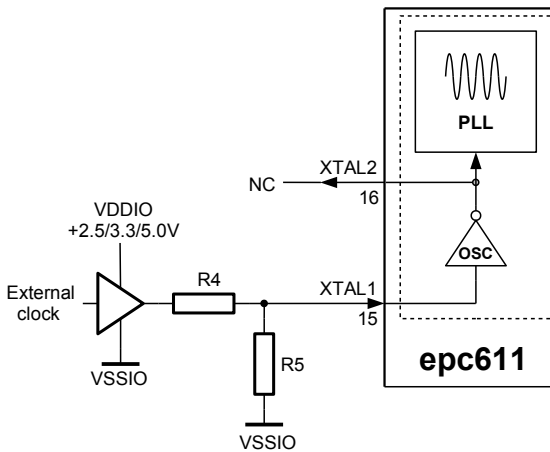

Figure 14: Resistor divider to adjust clock levels to V_{DDPLL}
2. Instead of a crystal, an external 4 MHz clock source can be connected to XTAL1. XTAL2 output pin left unconnected. The input clock signal level must match V_{DDPLL} supply level (see Table 1). If the external clock source voltage domain is above 1.8V, a resistor divider adapts it e.g. in Figure 14 and Table 12.